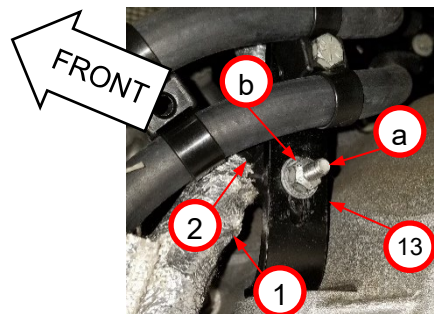

Figure 1b.
6. Use a wrench to remove flange head bolt (a) and nut (b) and two washers (not shown) from single tie clip (2) securing low pressure (LP) flexible fuel hose (1) to transmission bracket (13). *Figure 1b*
10. Install single strap clip (2), on transmission bracket (13) using bolt (a) and nut (b) and two washers (*not visible*). *Figure 1b*